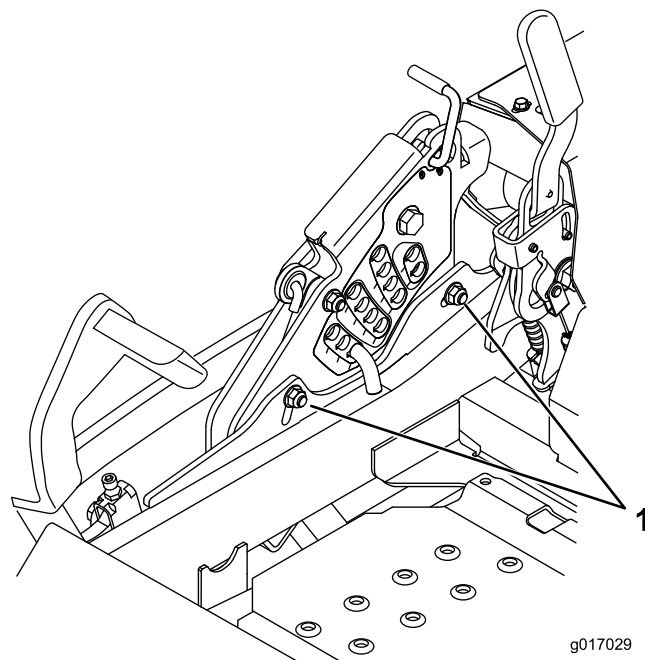

Figure 85
11. To adjust the single point system, loosen the two bolts at the bottom of the height-of-cut plate. Refer to Figure 85.
13. Tighten the two bolts at the bottom of the height of cut plate (Figure 85). Torque to 37-45 N-m (27-33 ft-lb).